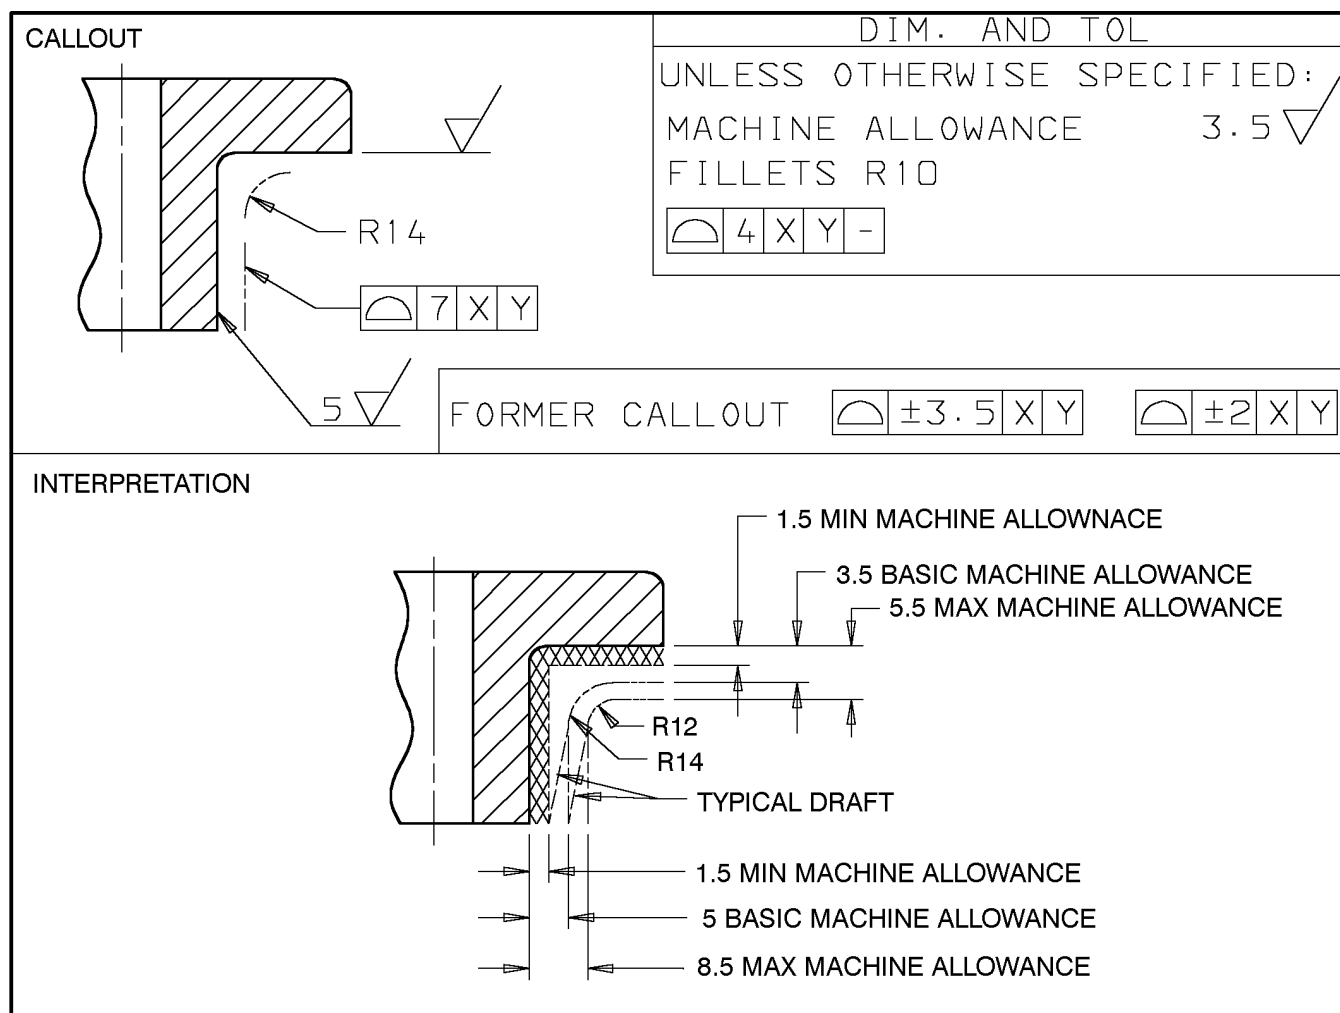

Figure 18 - Machine Allowance - Drafted Surface - Fillet
**10.8 Machine Allowance – Fillets -** Figure 18 illustrates machine allowance in a fillet area formed by two intersecting machine allowance zones in applications such as the mounting flange and machined diameter of a hub.